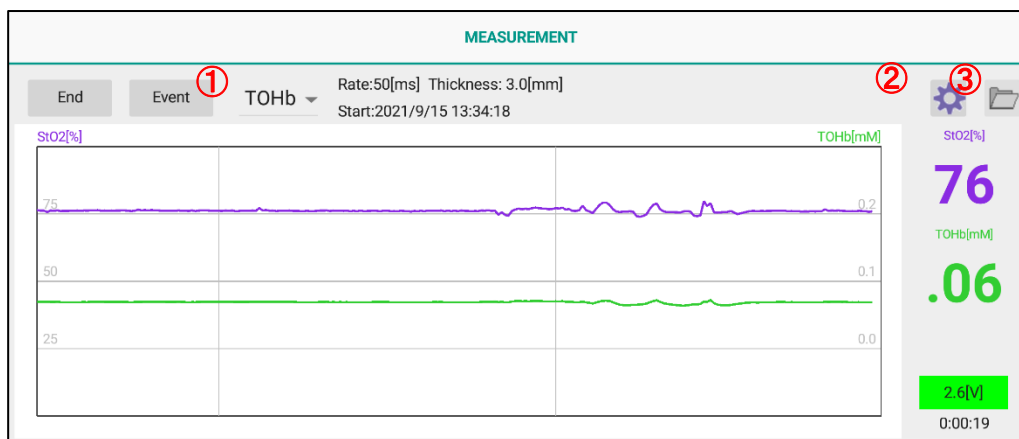

Figure 9. Screen during measurement in Real-time mode
Select from the upper right of the measurement screen (① in Figure 9) and set: "None", "3 points", "5 points", "7 points", "9 points", or "11 points".
Select "Accelerometer" or "Gyroscope" from the upper right corner of the measurement screen (① in Figure 9).
Select and display the value of each hemoglobin. (Figure 9, ②)
(When two units are used, "CH1" and "CH2" will be displayed on the left side of ① in Figure 9.)
The measured data can be checked on the spot. Tap the gear icon (⚙️) in Figure 9).